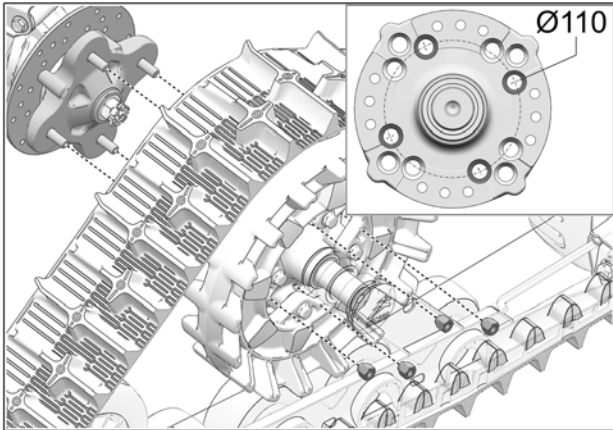

Fig. 10
9. Secure undercarriage to rear hub using the vehicle's own lug nuts. Use bolt circle  $\text{Ø}110$  mm. See Fig. 10